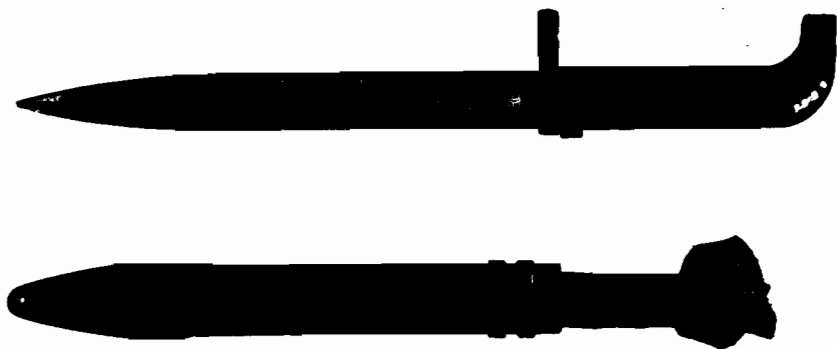

Figure 35. AK-47 bayonet and scabbard.
(1) The case serves as a container for the components and as a handle for the cleaning rod. Remove the cleaning rod by disengaging its head from the front-sight base and pulling it out of the weapon. Insert the threaded end through the empty case--into the largest hole first and out through the hole diagonally opposite--and straighten the rod so that its head rests against the inner wall of the case. Slip the case cap over the rod, and screw either the brush or the patch holder onto the rod. Slip the cap onto the muzzle nut and turn it slightly to lock it in place. Depress the muzzle-nut lock plunger to unlock the case cap to remove it.
(2) The combined drift, screwdriver, and wrench has several uses: To adjust the front sight, mate the screwdriver blade to the slot near the end of the case, slip the wrench over the front-sight post, and turn as necessary. Unscrew the post in order to move the strike of the bullet downwards. To use the screwdriver, reverse the combination tool, but place it in the center oval holes, with the wrench end engaged in the smaller hole.
c. The bayonet (fig. 35) is affixed by positioning its loops in front of the muzzle nut and the gas cylinder body and sliding the bayonet to the rear until the bayonet catch engages with the muzzle nut. The bayonet is removed by pulling the catch--located behind the hilt--away from the handle and sliding the bayonet forward and off. (Note: The AK-47 bayonet, the AKM bayonet, and the Czechoslovak M58 bayonet are not interchangeable).